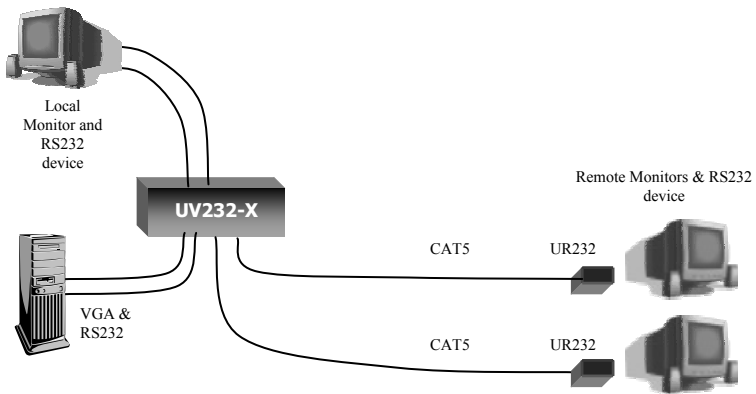

Figure 2.1
1. Connect the VGA IN and RS232 IN connectors of the UV232-x to the computer's video and serial ports using the supplied cables (see figures 2.1 and 2.2).